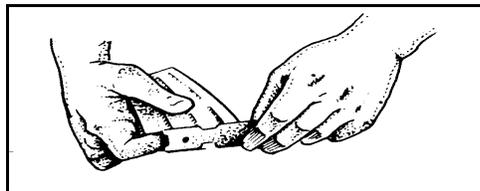

Figure 5-69. Removing the Base of the Magazine
- b. Remove the base (figure 5-69).